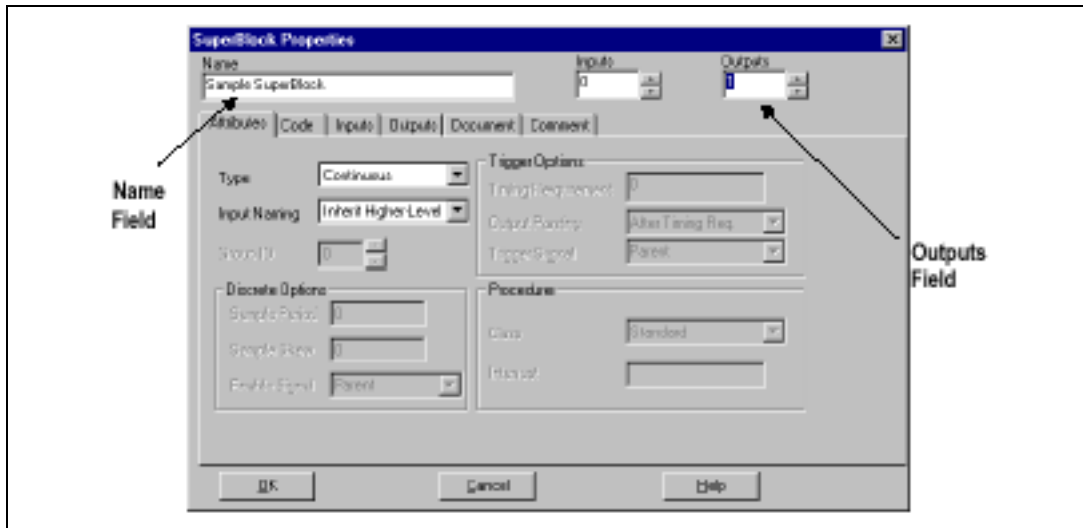

Figure 4-5. SuperBlock Properties Dialog
2. Within the SuperBlock Properties dialog, shown in Figure 4-5, perform the following steps: